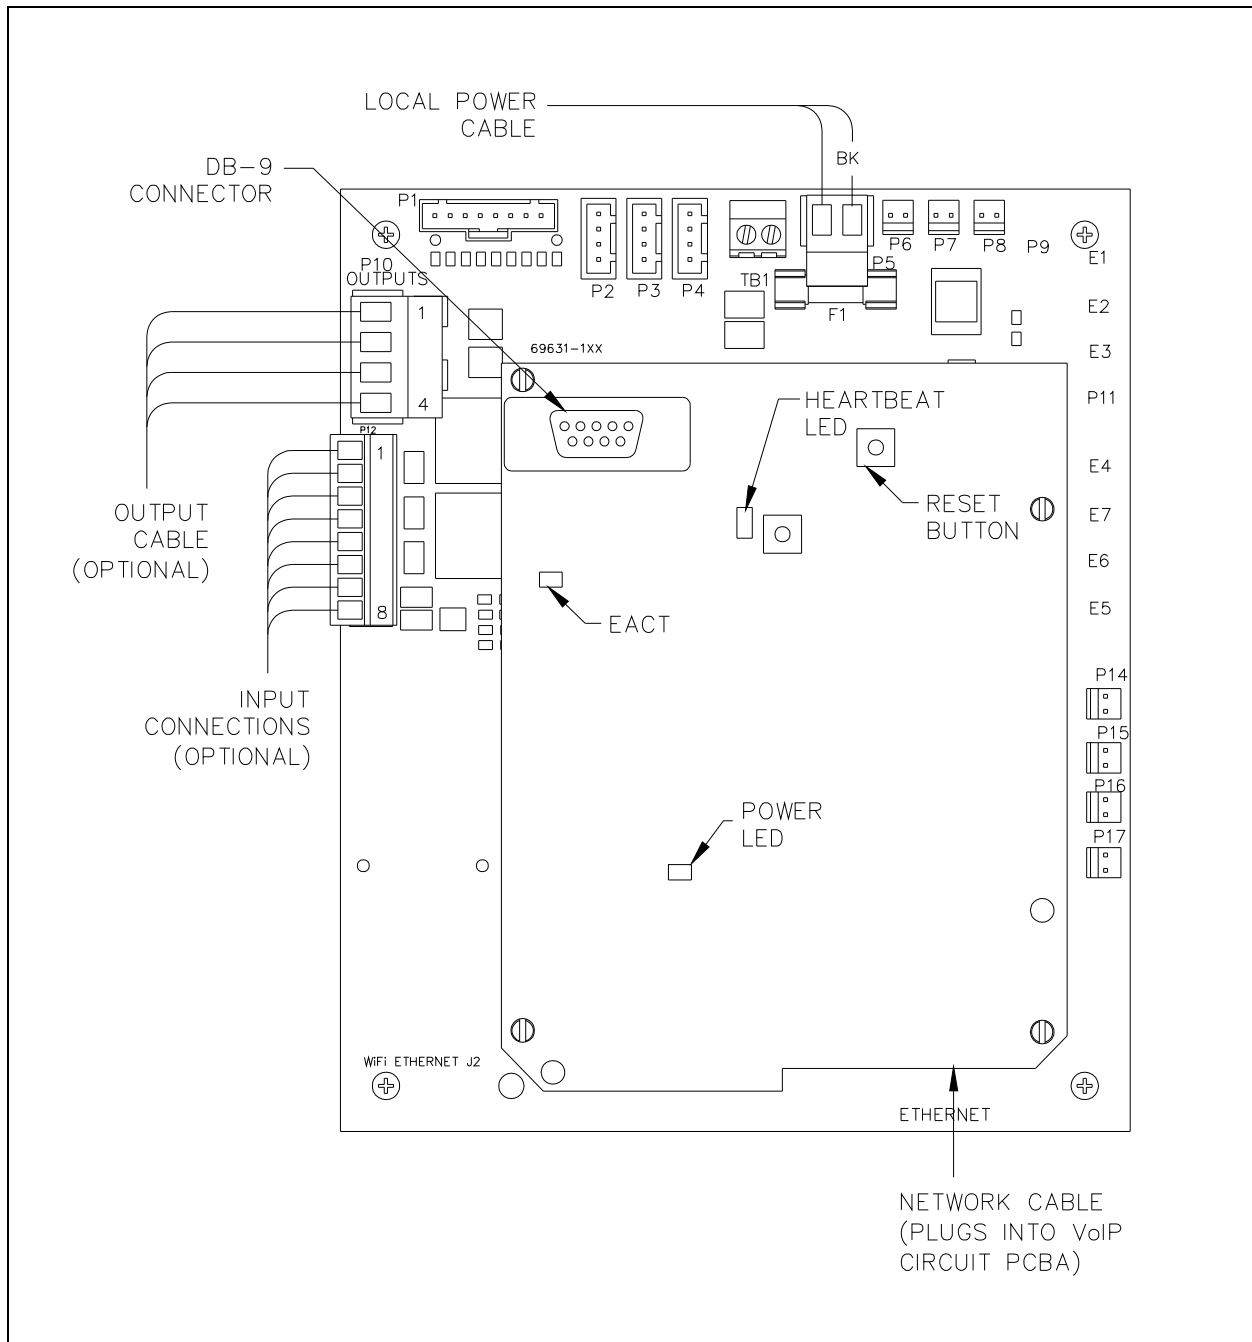
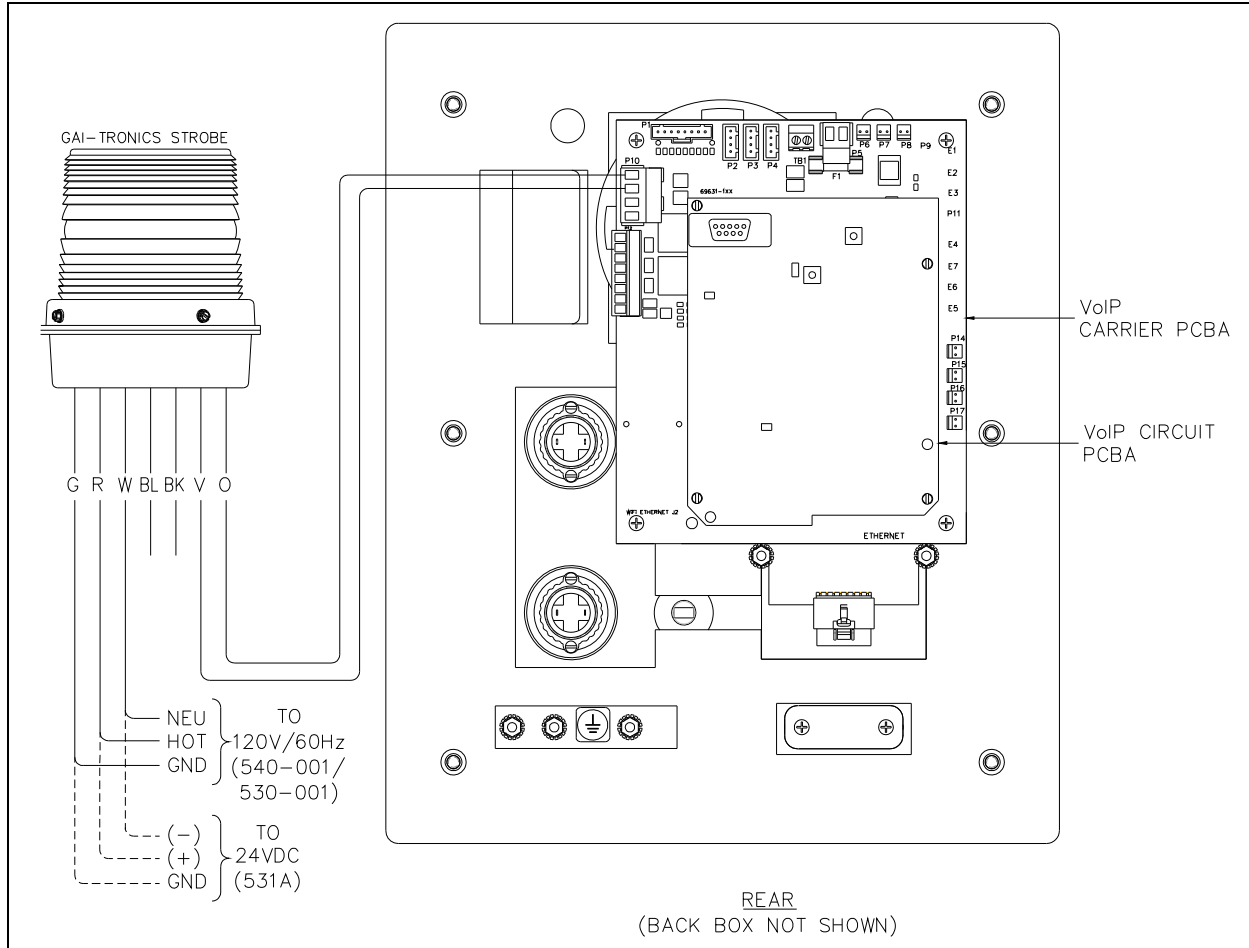

Figure 22. VoIP Telephone PCB Assembly
Figure 23. GAI-Tronics Models 540-001, 530-001, 531A Strobe Connection Details
4. Connect any desired peripheral I/O devices, referring to Figure 22, Figure 23, and the instructions on page 20 for connection information.
After all the field wires are pulled through the rear enclosure, install all connections as indicated below. Refer to Figure 22 for wiring details. Refer to Table 5 on page 20 for the recommended conductor sizes.
When PoE is not available, a separate, isolated 24 to 48 V dc power supply is required. See the “Replacement and Optional Parts” chart on page 28 for the recommended optional plug-in power supply (required only if PoE is not available.) A removable terminal block P5 has been provided for connection of local power to the telephone. Connect the positive conductor to the (+) terminal and the negative conductor to the (-) terminal of P5. See Figure 22 for wiring and location of P5.
Four auxiliary inputs have been provided for customer use. Terminations for these inputs are located on terminal block P12. See Figure 22 for the location of the connector.
Two outputs have been provided for customer use. Terminations for these outputs are provided on connector P10. See Figure 22 for the location of the connector.
The function of each input is configurable. Inputs can be configured for one of the following modes: On, Off, or On/Off. The signals can also be inverted between active high (INVERT) or active low (NORMAL). Activation of these inputs can be configured to update a SYSLOG or generate an email. Please refer to Figure 22 on page 19 of this manual and the “Logic Settings” section of GTC Pub. 42004-396, “VoIP Telephone Configuration Guide” for programming instructions for these inputs.
The function of each output is configurable. Outputs can be configured for one of the following modes: On, Off, Pulse, Mute, Ring, Call, Connect, Hook, In Use, Ring Cadence, Ring Out, Page, Registered, or Emergency. In some modes, the duration of the activation or on/off times can also be set. Please refer to Figure 22 on page 19 of this manual and the “Logic Settings” section of GTC Pub. 42004-396, “VoIP Telephone Configuration Guide” for programming instructions for these outputs.
The Power LED located on the VoIP PCBA illuminates when power is applied to the telephone. Refer to Figure 22 on page 19 for location.
The Heartbeat LED located on the VoIP PCBA will flash once communication over the LAN is established. Refer to Figure 22 on page 19 for location.
The EACT LED located on the VoIP PCBA will turn ON when VoIP PCBA is connected to an Ethernet device and flash when data is being transmitted. Refer to Figure 22 on page 19 for location.
In most applications, an output is used to operate a GAI-Tronics Model 540-001, 531A, or 530-001 Strobe (sold separately). For connection details, please refer to Figure 23 or the appropriate installation instructions included with each strobe.